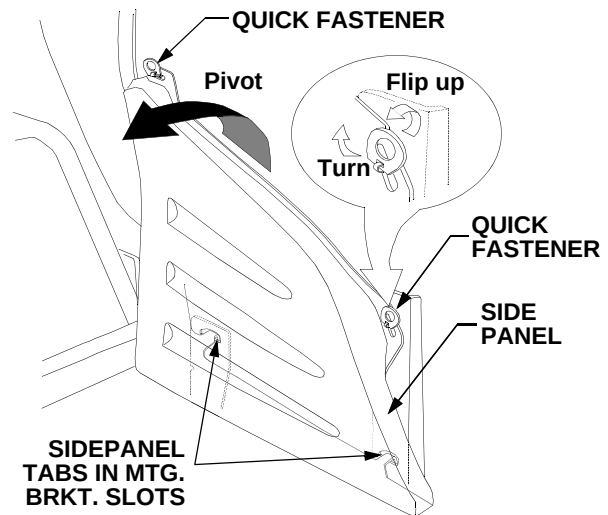

Figure 31
- Flip the tabs of the two quick release fasteners up and turn to align with the slots in the side panel. See Figure 31.
- Pivot the top of the side panel until the two tabs at the bottom of the panel can be withdrawn from the slots of the side panel mounting brackets; then remove the side panel. See Figure 31.
- Insert the two side panel tabs into the slots of the side panel mounting brackets. See Figure 31.